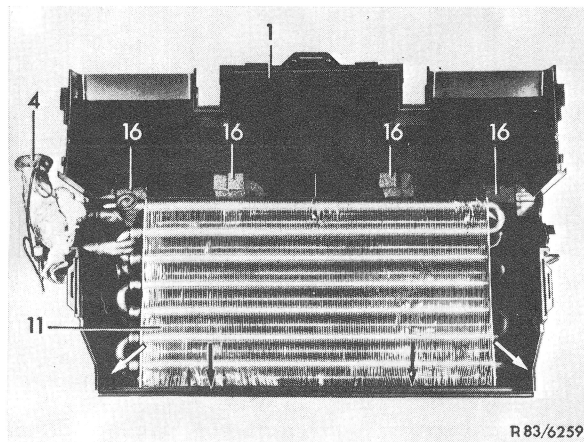

Figure 4
**13** Slide moltopren seals (16) between evaporator and evaporator box as shown in Fig. 4. Provide three surfaces of evaporator box with teroson cord (refer to arrows in Fig. 4).